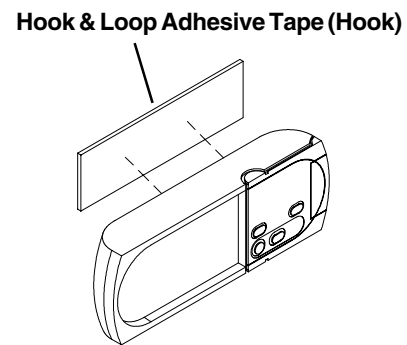
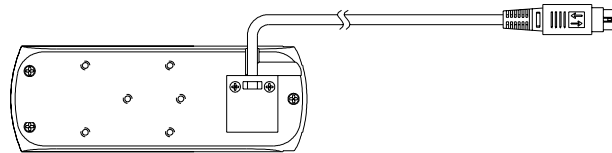

Figure 2.
Figure 3.
4. Remove the protective paper from the back of the second piece of the supplied Hook & Loop Adhesive Tape (Hook side) and apply it to the back side of the SCU (see Figure 2.). Position the SCU cable in the appropriate directional channel on the back of the SCU so that the back surface is flat (see Figure 3.).